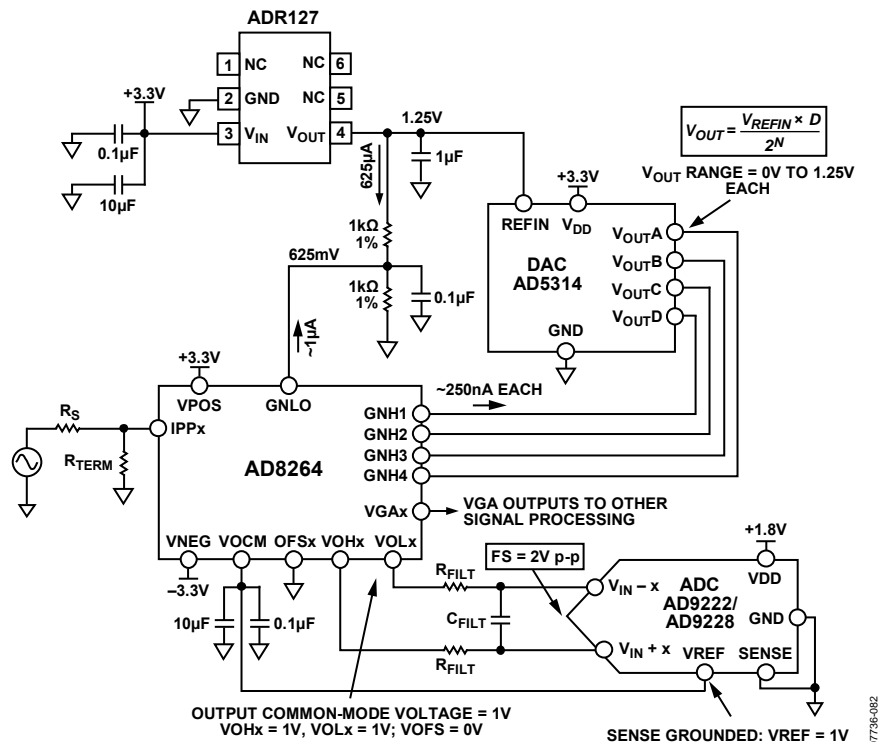
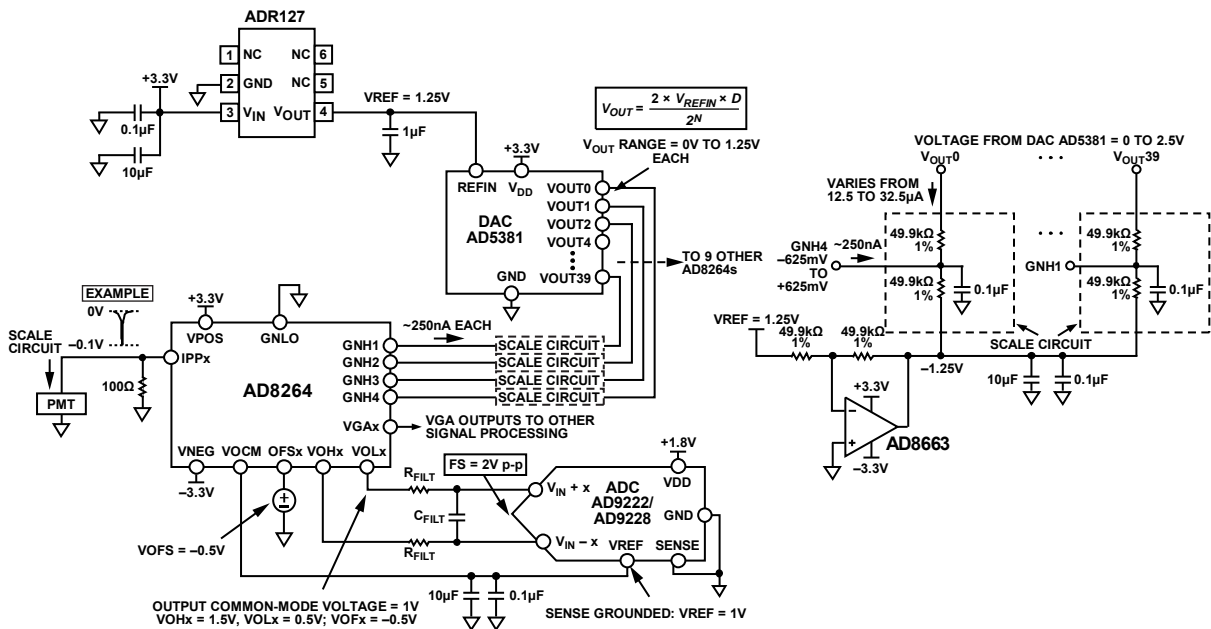

Figure 112. Application Concept of the **AD8264** with the **AD5314** 10-Bit DAC and the **AD9222/AD9228** 12-Bit ADC
Figure 113. Concept Application of AD8264 with 40-Channel AD5381 12-Bit, 3 V DAC and AD9222/AD9228 12-Bit ADC
The **AD8264** is particularly well suited for use in the analog front end of medical PET imaging systems. Figure 112 shows how to use the **AD8264** with the **AD5314** (a 4-channel, 10-bit DAC) and the **AD9222/AD9228** (an octal or quad, 12-bit ADC, respectively). The DAC sets the gain of the **AD8264**. Note that the full gain span of 24 dB is achieved with this setup because the gain control input range of the **AD8264** is very close to 1.25 V. The GNLO pin must offset by $1.25/2 = 625 \text{ mV}$ because the gain control input is bipolar around the voltage applied at GNLO. This is done with two 1 k Ω , 1% resistors. The approximately 1 μA of bias current flowing from the GNLO pin does not contribute a significant error because the basic gain error of the **AD8264** is the limiting factor.
Figure 112 also includes the DAC output equation, which indicates that the output can vary between 0 V and $V_{REF} = 1.25 \text{ V}$.
The single-ended-to-differential amplifier of the **AD8264** amplifies the VGA output signal by 6 dB and can provide the required dc bias of the **AD9222/AD9228**, as shown in Figure 112. The ADC is connected with the default internal reference because the SENSE pin is grounded. With this connection, the **AD9222/AD9228** VREF pin is an output that provides 1 V; this is then connected to the V_{OCM} input of the **AD8264**, which sets the output common-mode voltage of the V_{OHx} and V_{OLx} pins to 1 V. This voltage is very close to the recommended optimal value of $V_{DD}/2 = 0.9 \text{ V}$. With this configuration, the ADC inputs are set to a full-scale (FS) of 2 V p-p.
The dc connected concept example in Figure 113 is an application with the 40-channel AD5381, 3 V, 12-bit DAC. The main difference between this example and Figure 112 is that, for the same ADR127 1.25 V reference, the full-scale output of the DAC is from 0 V to $2 \times V_{REFIN} = 2.5$ V. Two options for gain control include the following:
- Use the same circuit as in Figure 112 but use only half the DAC output voltage from 0 V to 1.25 V. This is the simplest solution, requiring the fewest extra components. Note that the overall gain resolution increases by one bit to 11 bits over the 10-bit AD5314.
- Ground GNLO and scale the DAC output so that the GNHx inputs vary from -0.652 V to $+0.625$ V. Figure 113 shows a possible circuit implementation using a divider between the DAC output and a -1.25 V reference.
Figure 113 shows how the AD8264 is connected in a PET application. The PMT generates a negative-going current pulse that results in a voltage pulse at the preamplifier input and a differential output pulse on VOLx and VOHx.
A convenient method of verifying and customizing the signal chains shown in Figure 112 and Figure 113 is by ordering the corresponding evaluation boards available on www.analog.com. The AD8264-EVALZ is a platform through which the user can quickly become familiar with the features and performance capabilities of the AD8264. See the Evaluation Board section for more information.